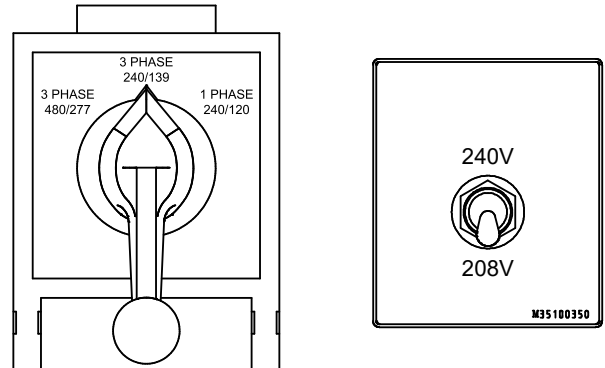

Figure 16. 3-Phase 208/120-Volt Selection
1. Place the **Voltage Selector switch** in the **3-phase, 240/139-volt** position as shown in Figure 16.
2. Place the **Voltage Select switch** in the **208-volt** position as shown in Figure 16.